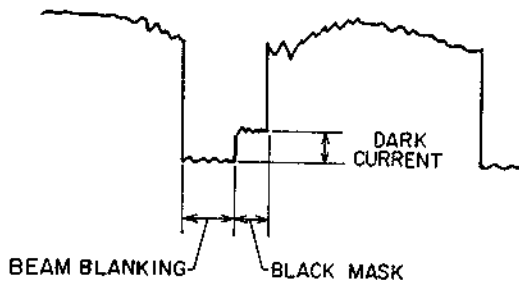

Fig. 5-18
The reverse current ( $I_{sh}$ ) of a photodiode increases in step with the increase of incident light. (See Figure 5-18.) If the amount of incident blue (OUTDOOR) light increases, the output voltage ( $I_{sh} \times R_2$ ) at pin ⑥ of IC1 increases. (See Figure 5-19.) This voltage is routed through a voltage follower (IC2) and is then compared in a comparator (IC6) with the output voltage derived from the incident red (INDOOR) light. In this case, since the blue (OUTDOOR) detection level is higher, the output at pin ① of IC6 goes to "H" and TR14 is activated. Pin ⑩ of IC7 also goes to "H" and then pin ⑨ goes to "L". As a result, R80 goes to GND and the gain of the RED signal amplifier is increased. In this manner, the differ-